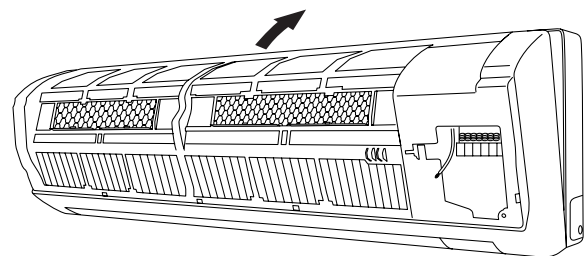

Fig. 11b
- (1) When installing the grille, place the bottom of the grille into the frame first. (Fig. 11b)